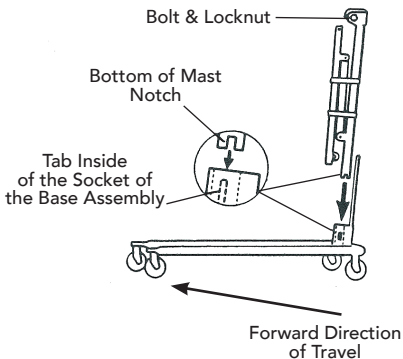

Fig. 3
4. Match the notch at the **BOTTOM** of the mast assembly with the **TABS INSIDE** the socket of the base assembly and insert (See Fig. 3).